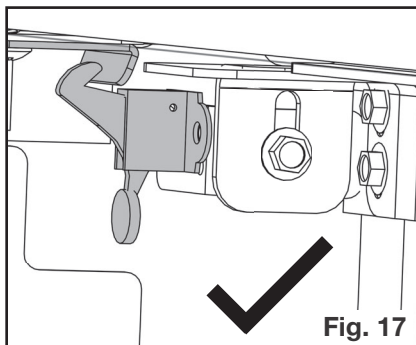

Fig. 17
13. Check if the latches are correctly positioned (**Fig. 17**). Adjust latches, if necessary. Retighten the screws securely but do not overtighten.